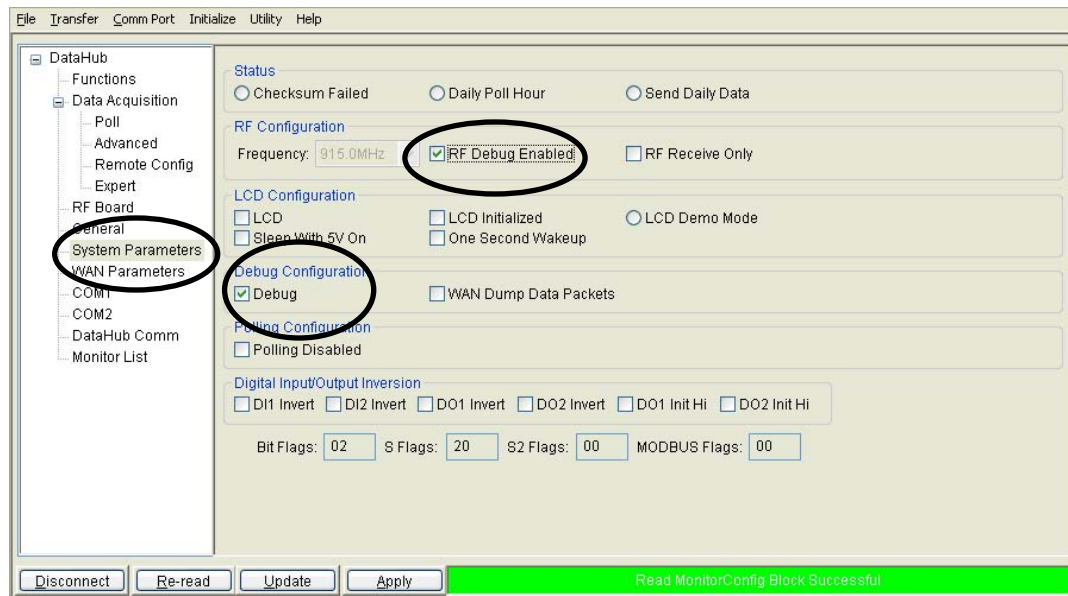

Fig. 7.3: Enable Debug Mode in DataHub
- 7.8 Under **Debug Configuration** click on check box **Debug**. Fig 7.3